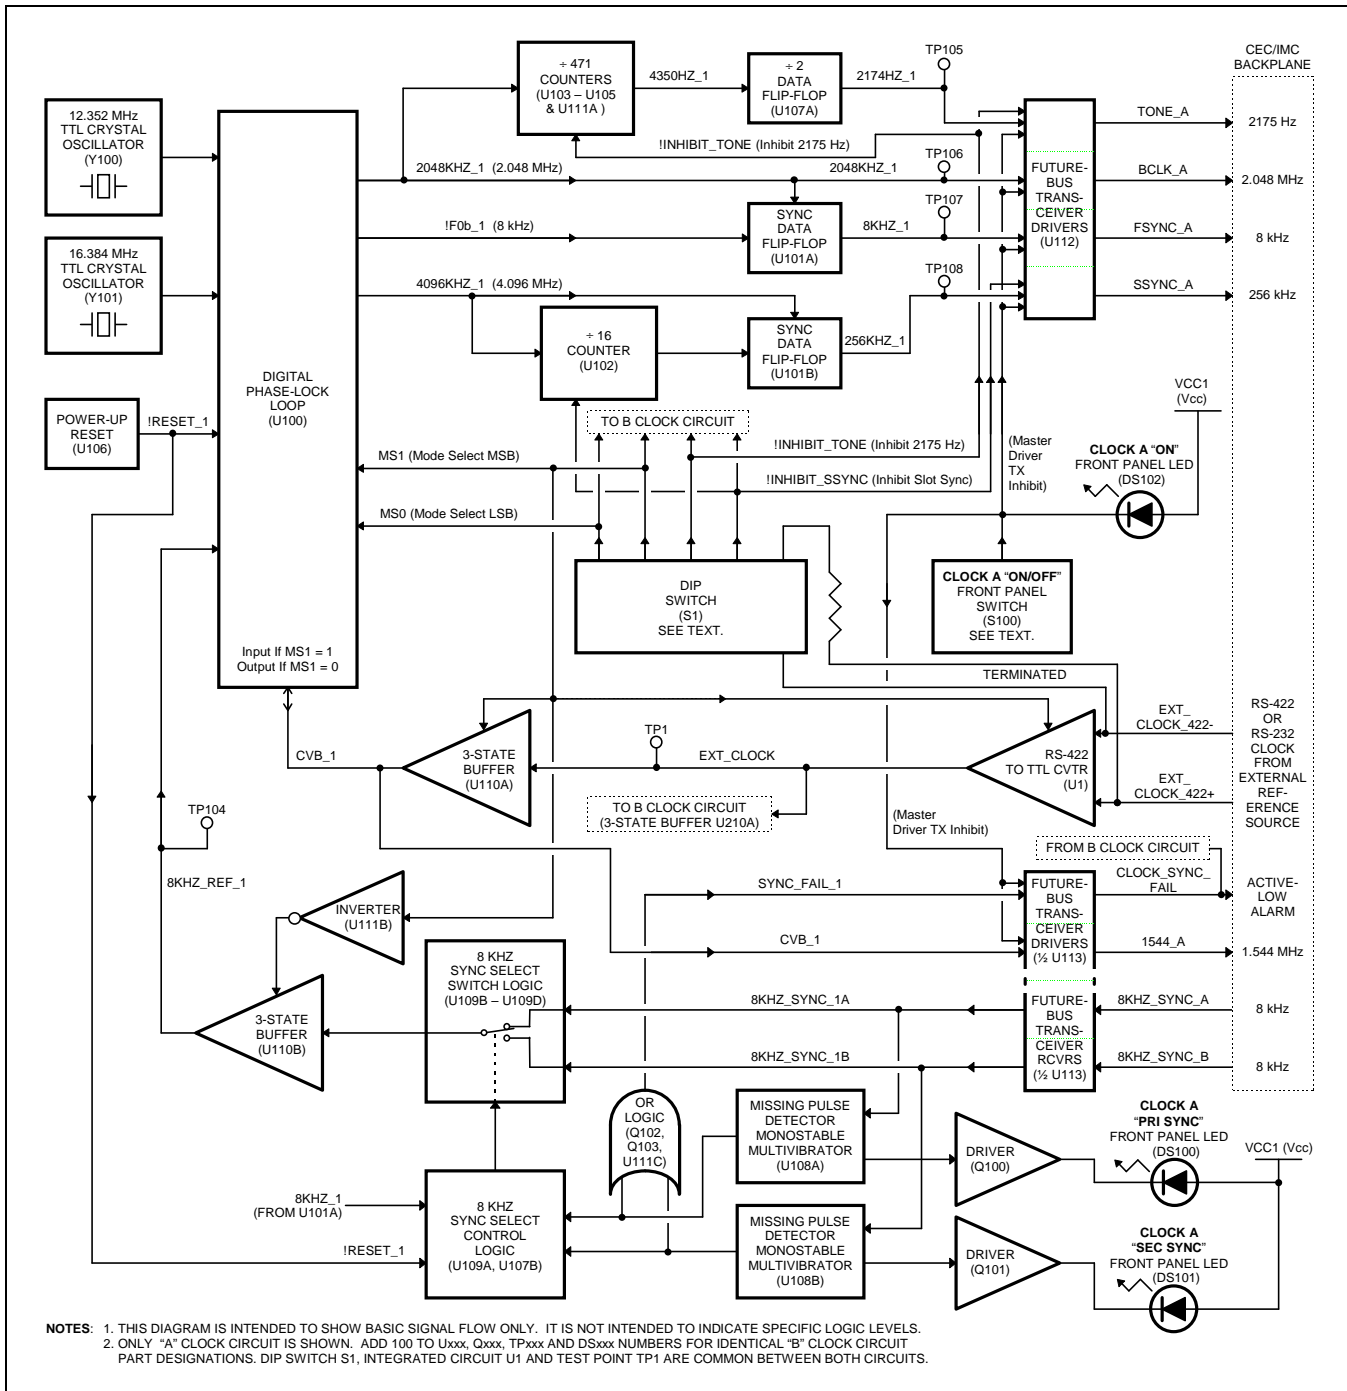
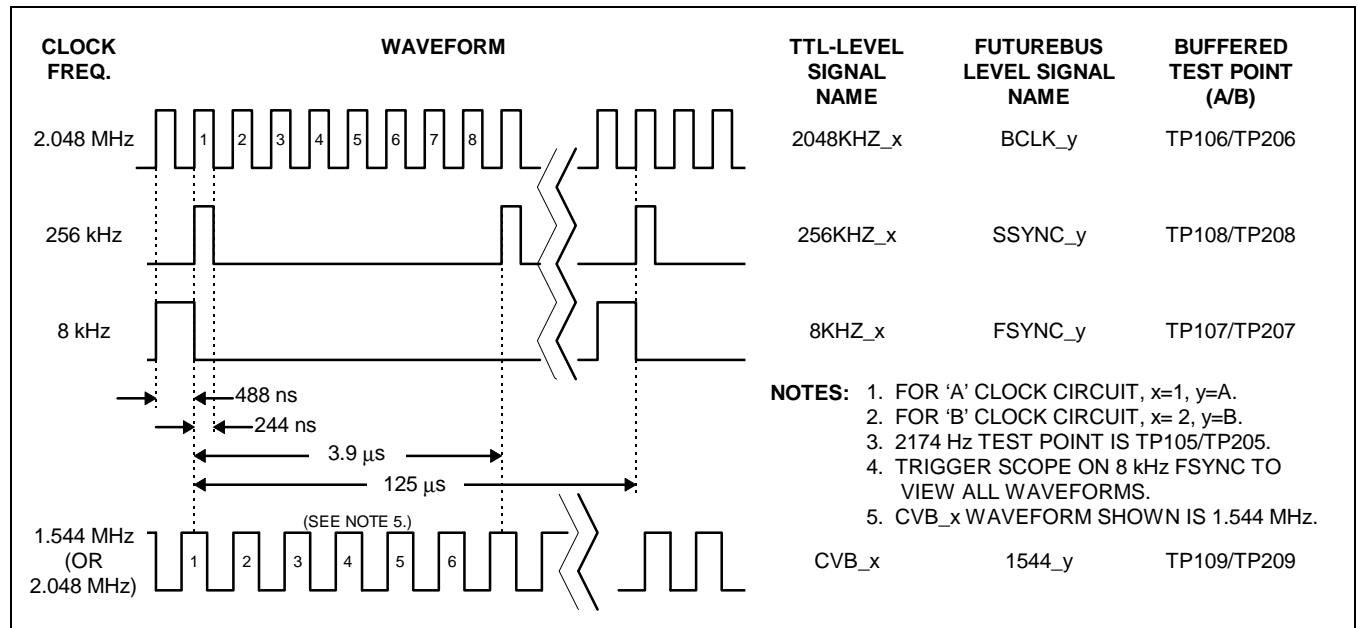

Figure 1 – Clock Board Block Diagram
Figure 2 – Clock Output Waveforms At Test Points
Figure 1 is a block diagram of the Clock Board. To avoid unnecessary duplication, it only details the A clock circuit. Refer to this figure and the schematic diagram (3 sheets) at the end of this book while reviewing the following circuit analysis.
As indicated in Figure 1, components within the A clock circuit are assigned 100-series designations and
Basic timing of the Clock Board's clock outputs, respective signal names and test points are shown in Figure 2. This figure indicates waveforms present at the test points, not on the Futurebus lines. Futurebus line waveforms are inverted from the test point waveforms. Futurebus line names are indicated in the figure for reference only. Also, the 2174 Hz tone clock output is not shown since its rise/fall timing is not critical. The clock output signal names are also summarized in Table 1.
Two (2) crystal oscillators and a specialized dual Digital Phase-Locked Loop (DPLL) integrated circuit in each clock circuit are the heart of the circuit's clock generation and synchronization electronics. Refer to Figure 1, Figure 2 and the schematic diagram while reviewing the following circuit analysis.
The 256 kHz slot sync counter circuit consists of 4-bit binary presettable synchronous counter U102/U202 and data flip-flop U101B/U201B. Basically, this circuit divides the 4.096 MHz clock output from the DPLL chip (4096KHZ\_x) by sixteen (16) to produce the 256 kHz slot sync clock signal, 256KHZ\_x (where x = 1 in the A clock circuit and x = 2 in the B clock circuit). As a result, one slot sync clock pulse is generated for every eight (8) 2.048 MHz bit clock pulses, a requirement for TDM bus network clocking. As shown in Figure 2, the width of the slot sync clock pulse is 244 nanoseconds – one-half of bit clock’s period.
Counter chip U102/U202 performs the actual dividing function and the flip-flop ensures 256KHZ\_x clock pulses are rising-edge triggered with 2048KHZ\_x (bit clock), also a requirement for TDM bus network clocking. See Figure 2. Actually, the flip-flop is clocked by the 4096KHZ\_x clock output from the DPLL chip; inside the DPLL chip the 2.048 MHz clock is itself rising edge-triggered by the 4.096 MHz clock.